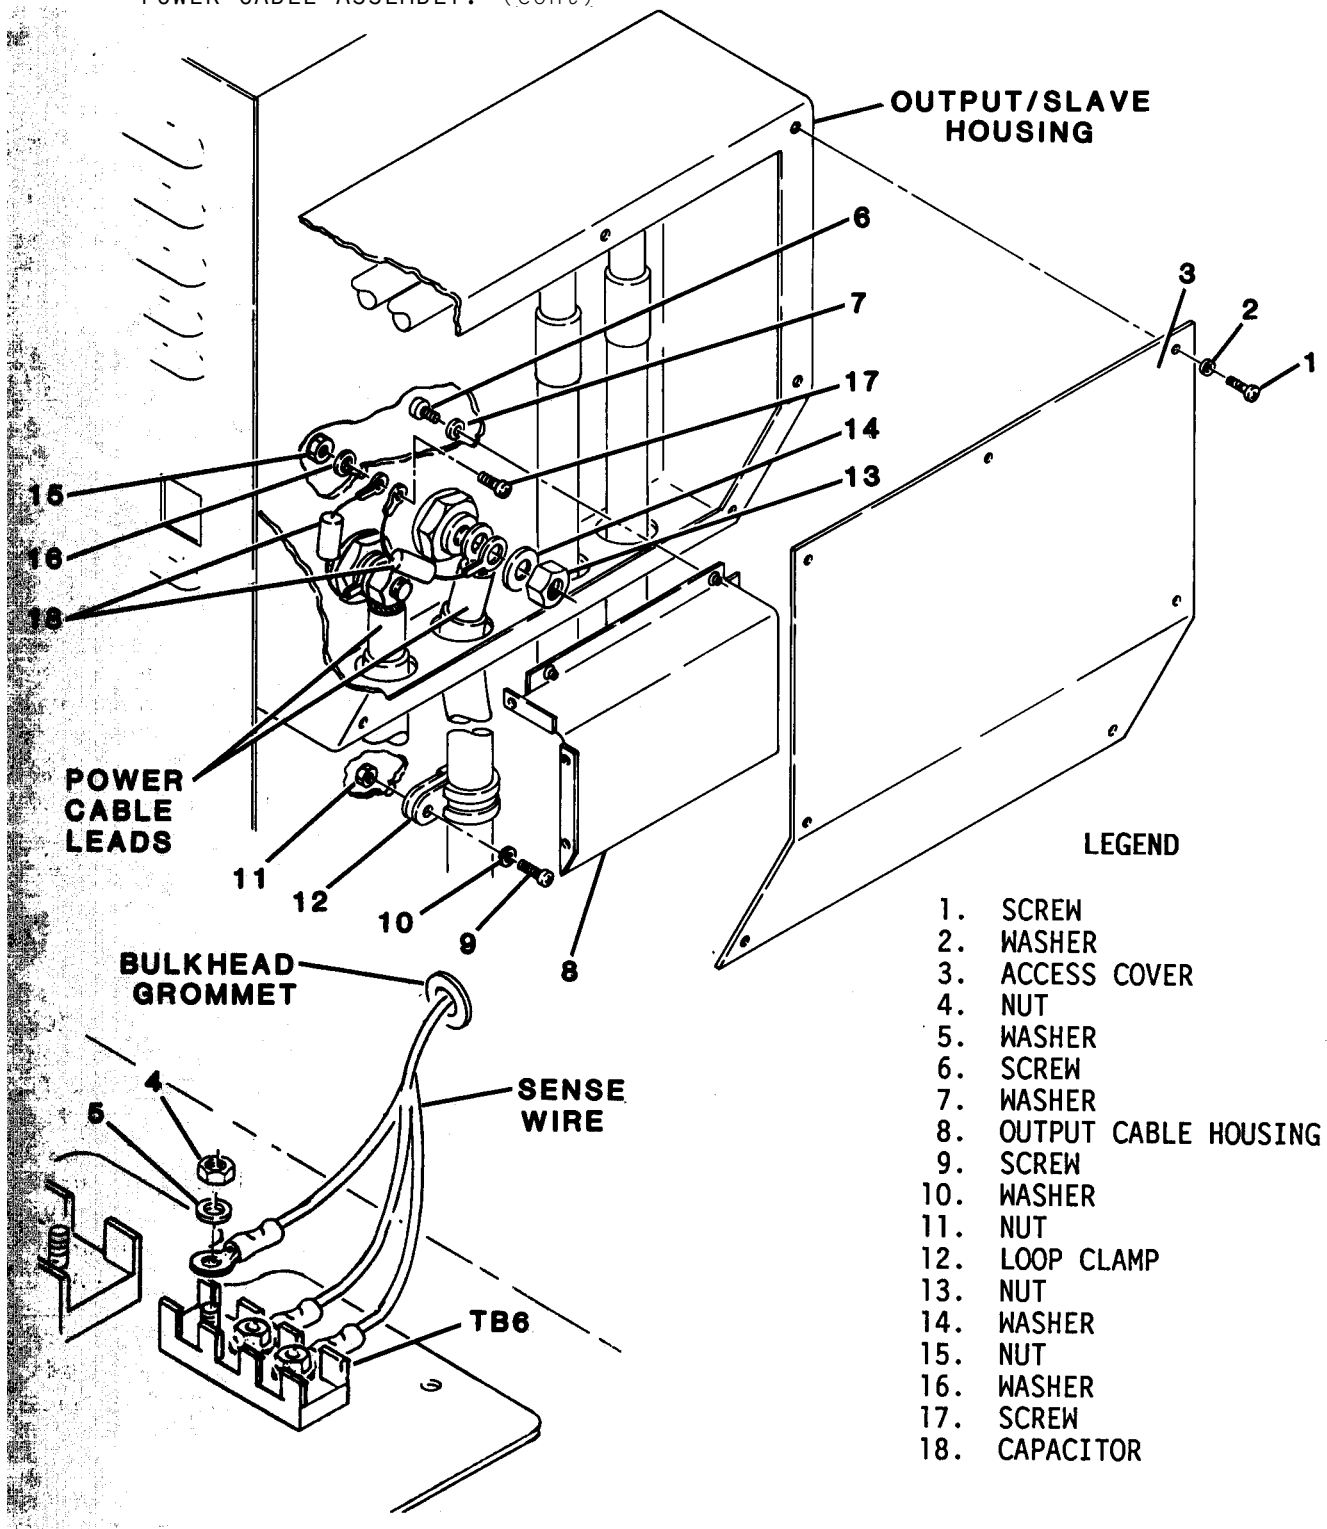

Figure 4-48. Power Cable Replacement
**4-81. POWER CABLE ASSEMBLY.** Maintenance of the power cable assembly is limited to replacement. Refer to figure 4-48.